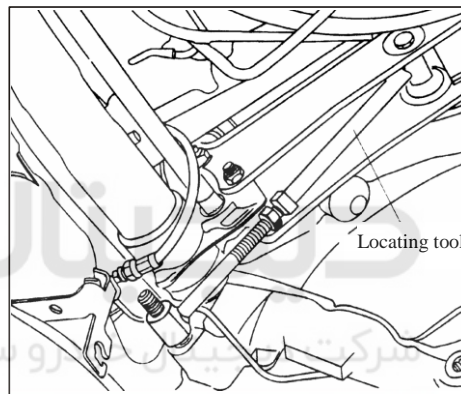

Figure 4-25 Install Setting Tool
(8) Adjust the locating tool, fix it as indicated in Figure 4-25, and then tighten up the looseness-proof nut on tool.